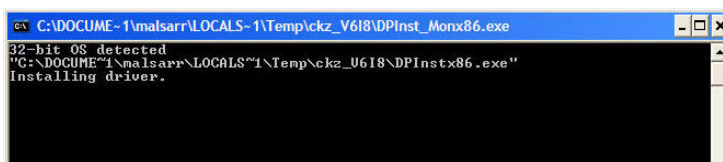

Figure 17. Driver installation window prompt.
2. Double click on the file labelled "CDM 2.04.16.exe" to start the driver installation program. The installation window screen will appear and the file will be installed automatically (Figure 17).